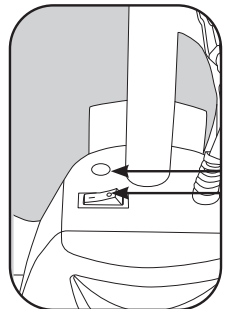

Fig. 5
1. To turn the vacuum on, push the switch located on the dust compartment to the (I) position (Fig. 5).
2. To turn the vacuum off, push the switch located on the dust compartment on the (O) position.
The full bag indicator is designed to show when the bag is full or when there is a clog in the vacuum. (Fig. 5).